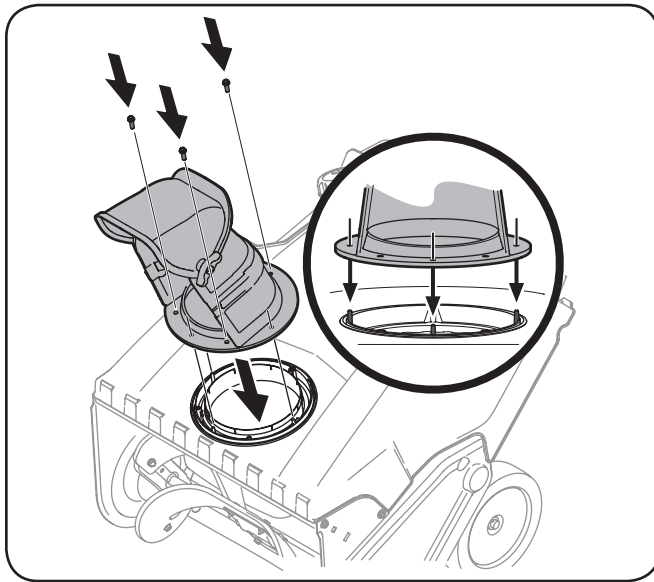

Figure 3-4
- Align the holes in the chute base with the holes in the lower chute and secure with the previously removed hex washer screws. See Figure 3-4.